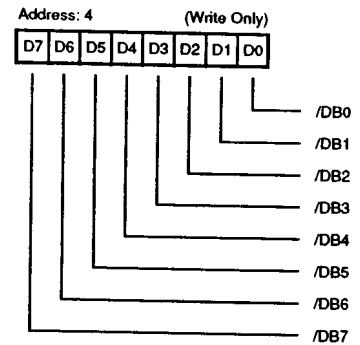

Figure 13. Select Enable Register
Select Enable Register. Address 4 (Write Only). The Select Enable Register (Figure 13) is a write-only register which is used as a mask to monitor a signal ID during a selection attempt. The simultaneous occurrence of the correct ID bit, /BSY FALSE, and /SEL TRUE will cause an interrupt. This interrupt can be disabled by resetting all bits in this register. If the Enable Parity Checking bit (Mode Register, bit 5) is active (1), parity is checked during selection.